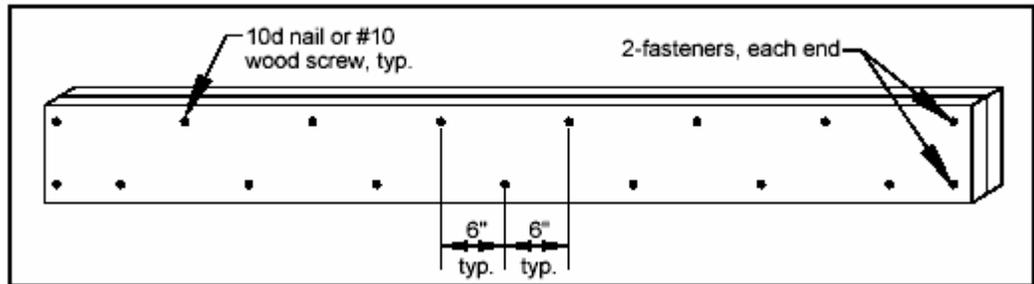

Figure 19 - Built-Up Beam Detail
**Requirements:** Built-up beams shall be assembled in accordance with Figure 19. The nailing pattern shall be staggered as shown.